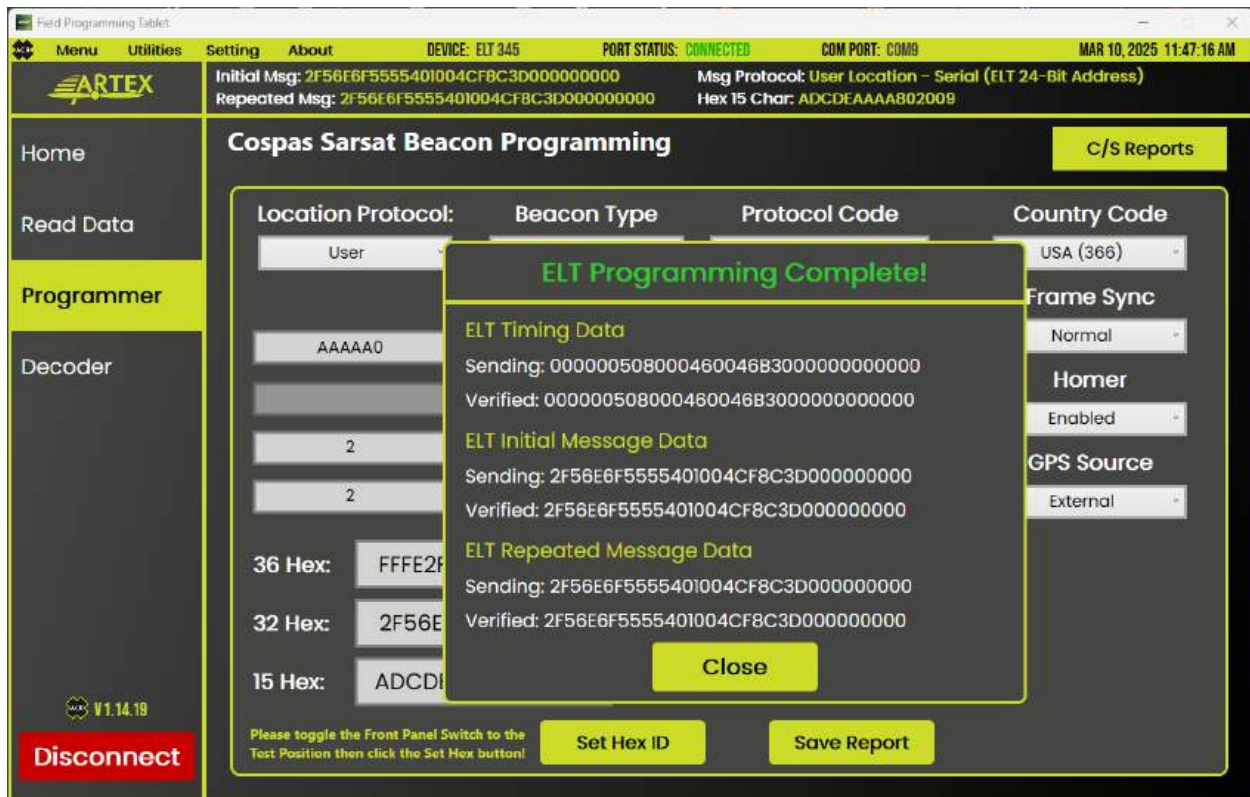

Figure 18 – Cospas-Sarsat Programmer
- Do not close the popup window (Figure 18) until the **“ELT Programming Complete!”** or **“ELT Programming Failed!”** is displayed.